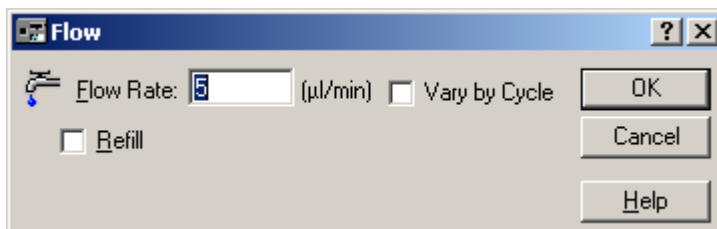

Figure 4.4
- 4.4.2.2 Flow setting window (Fig. 4.4) pops up.